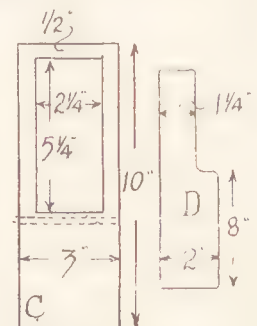

Fig. 4—Windows and fascia
The spaces between the sides of the shop and strips (A) represent the shop windows. To finish the front of the shop and also provide a rebate for the glass to cover the windows, cut from $\frac{1}{2}$ in. fretwood two of (C), Fig. 4. It will be seen that a 7 in. by 14 in. panel of the wood will provide these and leave a bit over. Now glue and nail these parts over the window openings.
To finish off the constructional work, a fascia board will be needed. This should be cut from $\frac{1}{2}$ in. wood or nearabouts, to shape at (D) Fig. 4, half length only being given. Glue it to the top of the shop, and stiffen it a little with small angle